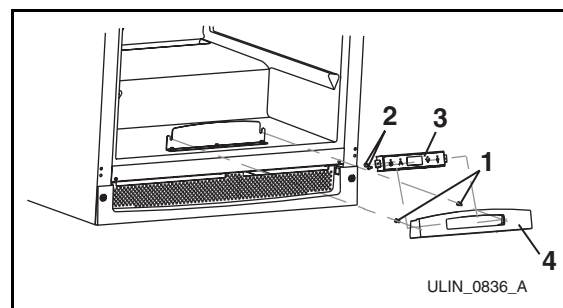

Figure 19
1. Loosen the two screws holding the controller to the mounting bracket (**Figure 19, 1**).
2. Lift the controller housing (**Figure 19, 4**) and then rotate forward to expose the wiring harness on the back.
3. Disconnect the wiring harness from the controller (**Figure 19, 3**).
4. Remove the two screws holding in the controller housing (**Figure 19, 2**), then remove from wood.